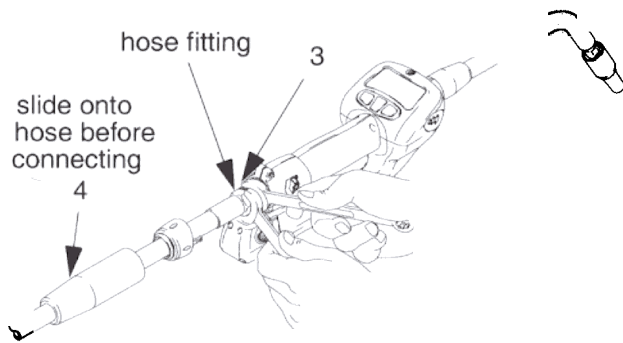

FIG. 3
7. Slide the swivel cover (4) of the electronic meter onto the hose, small end first. See FIG. 3.
8. Apply thread sealant to the male threads of the hose fitting, thread the hose fitting into the swivel (3) of the meter, and tighten it firmly. See FIG. 3.